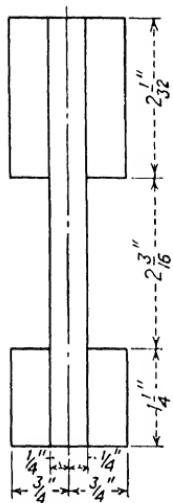

Fig. 124.—Front
- 10-11. Make full-scale drawings of the layout of the airplane wing spars, in Figs. 124 and 125.
12. Find the over-all dimensions of each of the spars in Figs. 124 and 125.